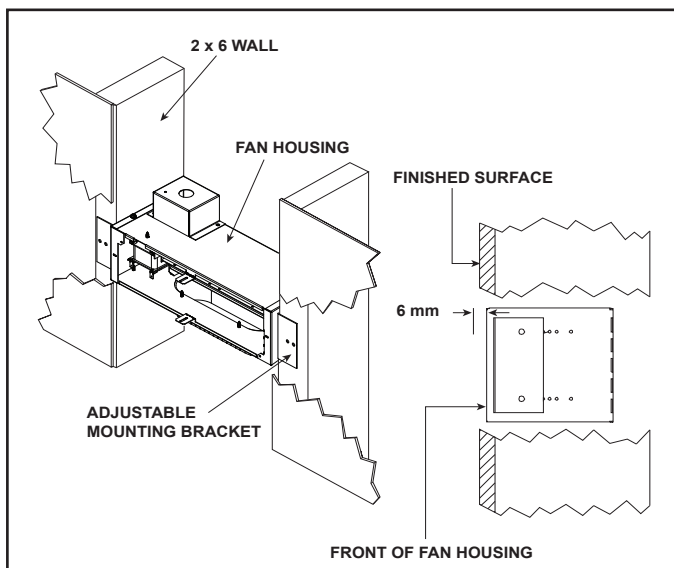

Figure 5.7 Fan Housing Mounting 2 x 6 Wall
6. Mount and secure the fan housing assembly to framing members so the front surface is 6 mm below the finished wall or floor surface. Use the adjustable mounting brackets and screws provided in the kit. See Figure 5.7. **NOTE:** The brackets can be rotated 180° and mounted to the back side of the framing member if necessary.